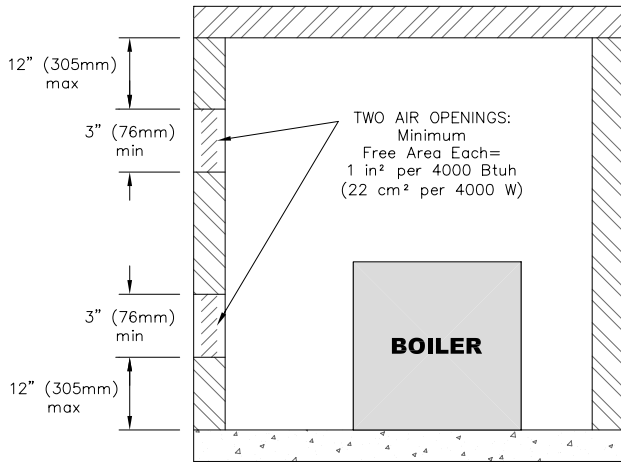
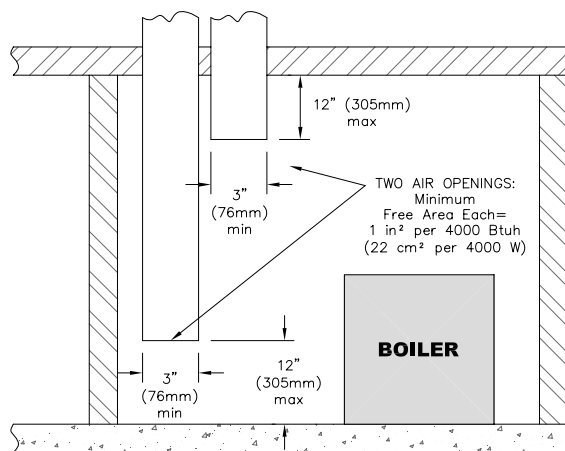

Figure 1.3: Air Openings – All Air Directly from Outdoors
Figure 1.4: Air Openings – All Air from Outdoors through Vertical Ducts
i. Where communicating directly or through vertical ducts with the outdoors each opening shall have a minimum free area of 1 in2 per 4000 Btu/hr (22 cm2 per 4000 W) of total input rating for all equipment in the space. See Figure 1.3 for openings directly communicating with the outdoors or Figure 1.4 for openings connected by ducts to the outdoors.